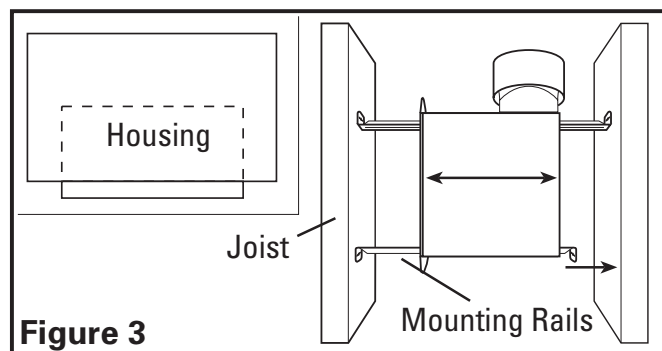
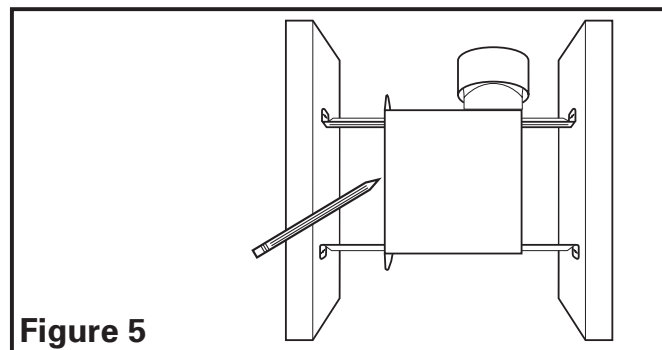

Figure 3
Figure 5
1. **Mounting Rail Installation:** Install the rails on the housing and position the housing next to the joist. Using the gauge on the fan's housing, line up housing so that it will be flush with the finished ceiling. Secure the ends of the rails with screws or nails (not included) to the joists and slide the housing into the final position (**Figure 3**).
1. **Mounting Rail Installation:** Set housing in position between the joist and trace an outline onto the ceiling material (**Figure 5**). Set housing aside and cut opening, being careful not to cut or damage any electrical or other hidden utilities. Install the rails on the housing and position the housing in the previously cut hole so that it is flush with the finished ceiling. Secure the ends of the rails to the joists (**Figure 3**).